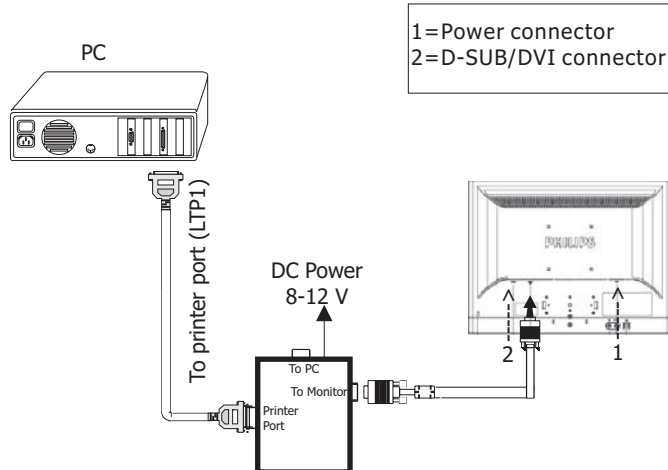

Fig. 5
Step 2: Connecting printer cable and D-Sub cable of monitor as Fig. 5